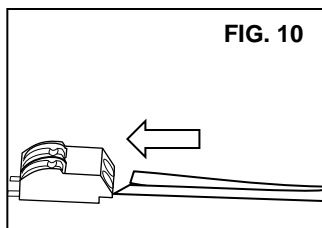

FIG. 10
- From the new LED DRIVER insert the RED (or BLACK) WIRE into the HOT TERMINAL (marked with a "+" on the LED BOARD) and the YELLOW (or WHITE) WIRE into the NEUTRAL TERMINAL (marked with a "-" on the LED BOARD) of the TERMINAL BLOCK. (FIG. 10)